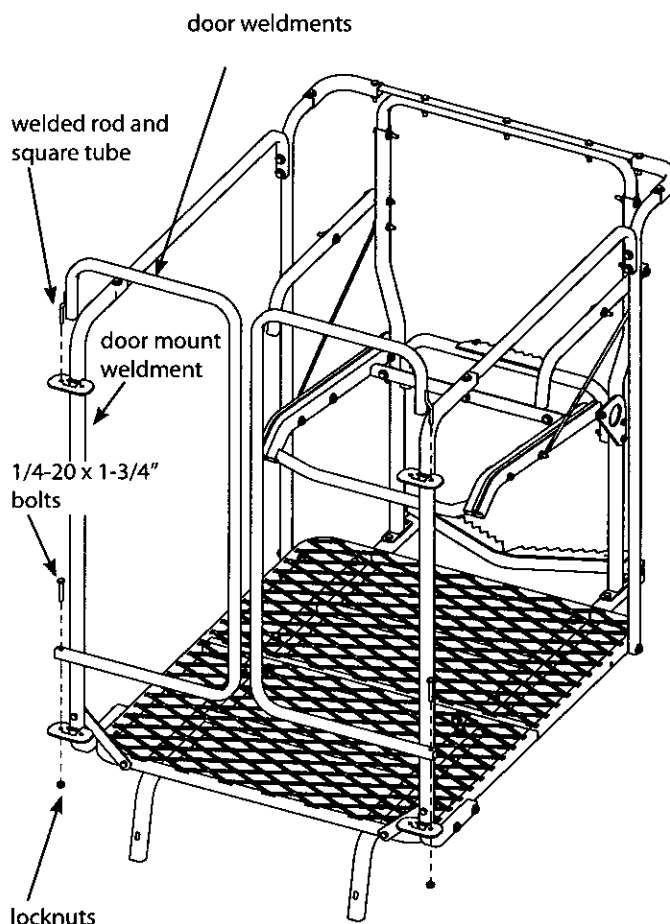

Figure 11
17. Attach (2) door weldments (410017) to the door mount weldments by inserting welded rod and square tube of door frame into the locking position on the upper door mount frame plates. Attach the lower portion of each door to the lower door mount plate using (2) provided 1/4-20 x 1-3/4" bolts and locknuts. **SEE FIGURE 11. Tighten nut only so that the bolt protrudes through nyloc nut so that it is flush.**